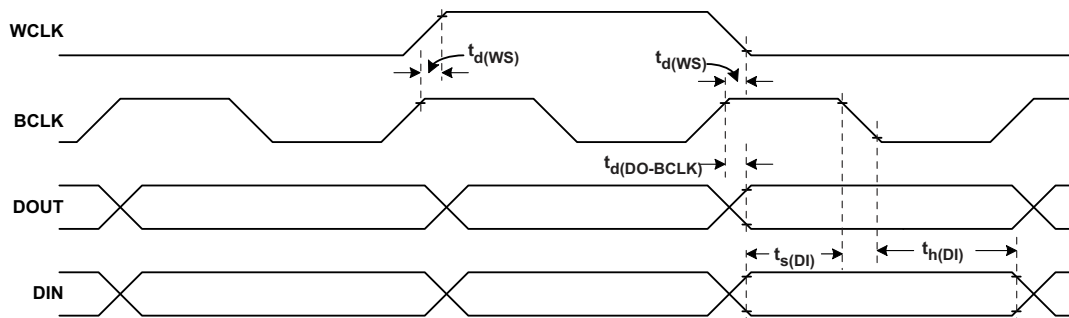

**Figure 2. I2S/LJF/RJF Timing in Slave Mode**
**8.12 I2S/LJF/RJF Timing in Slave Mode (see Figure 2)**